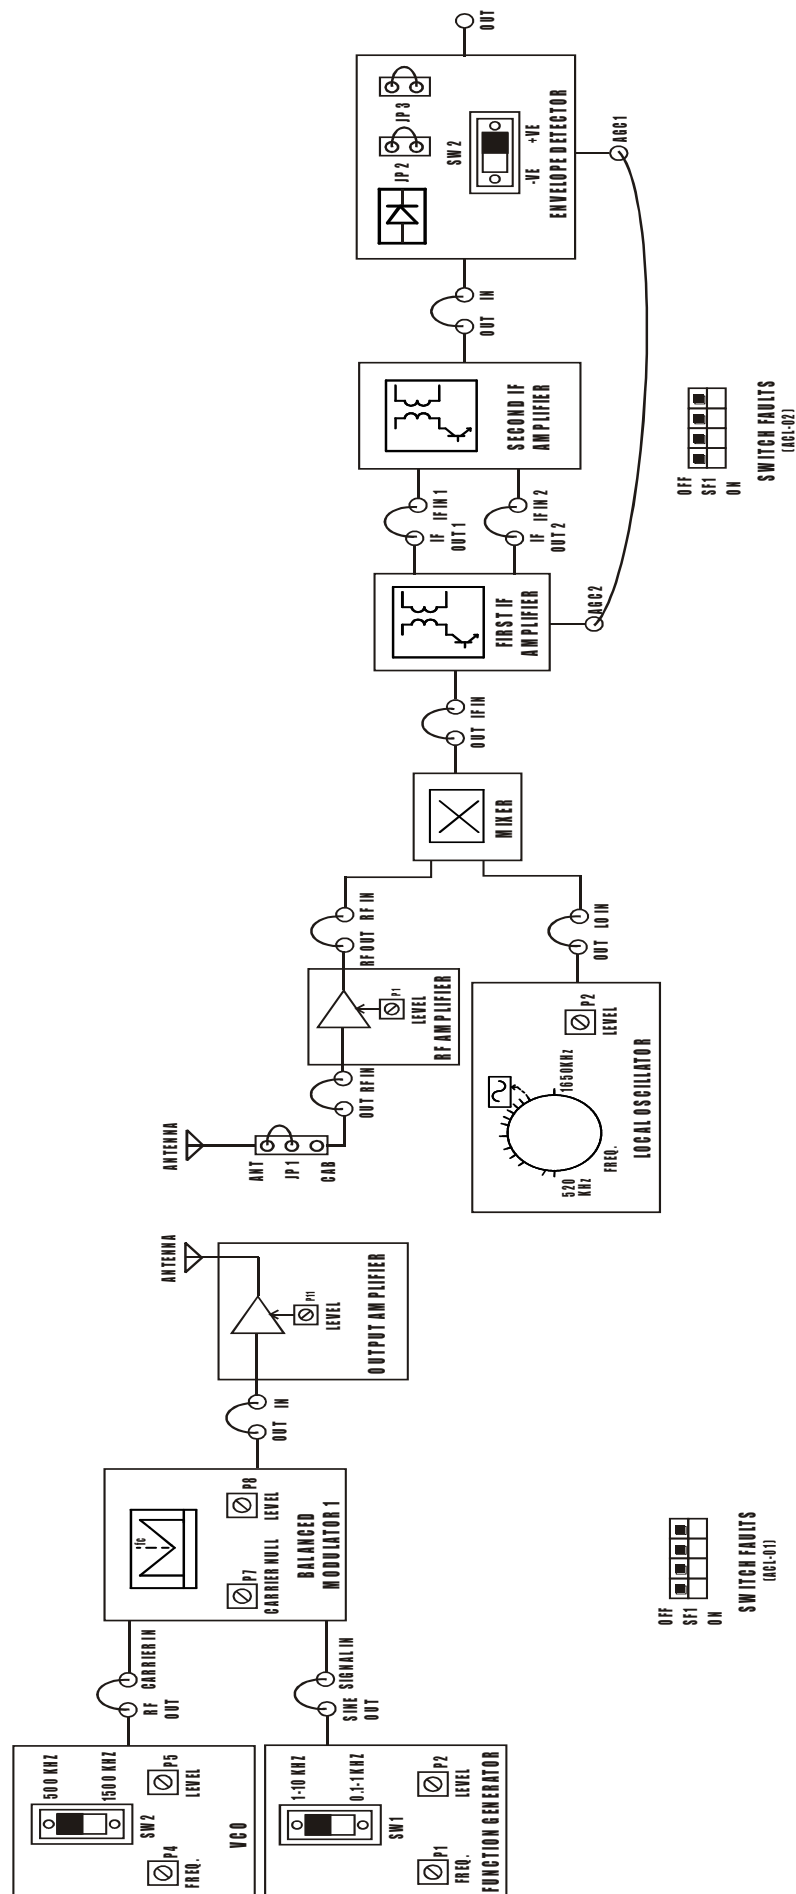

FIG. 3.3 BLOCK DIAGRAM FOR MEASUREMENT OF SENSITIVITY AND SELECTIVITY OF DSB AM RECEPTION VIA ANTENNA
1. Refer to the FIG.3.3 & Carry out the following connections.